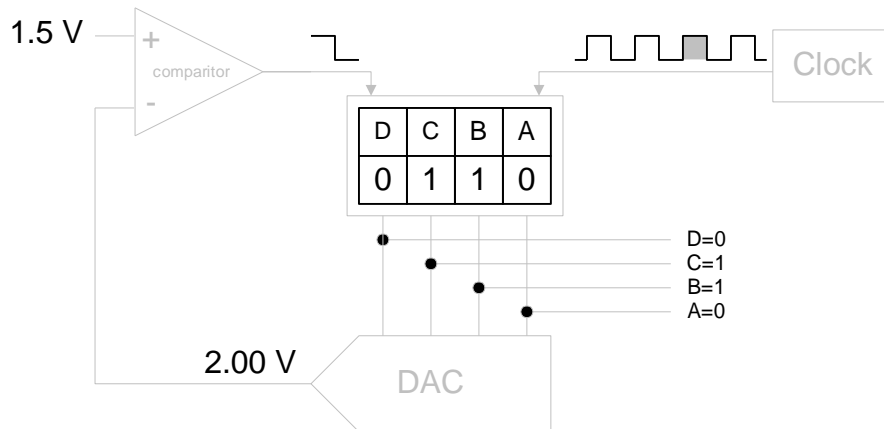

Figure 4.
Figure 4. shows the third step in the conversion cycle. With the third clock pulse, the B (2) bit is set to 1. Note, though, that the DAC now outputs 2.00V, not .667V as you might first expect. This is because the C and B bits are both set to 1, and giving a V_{out} of